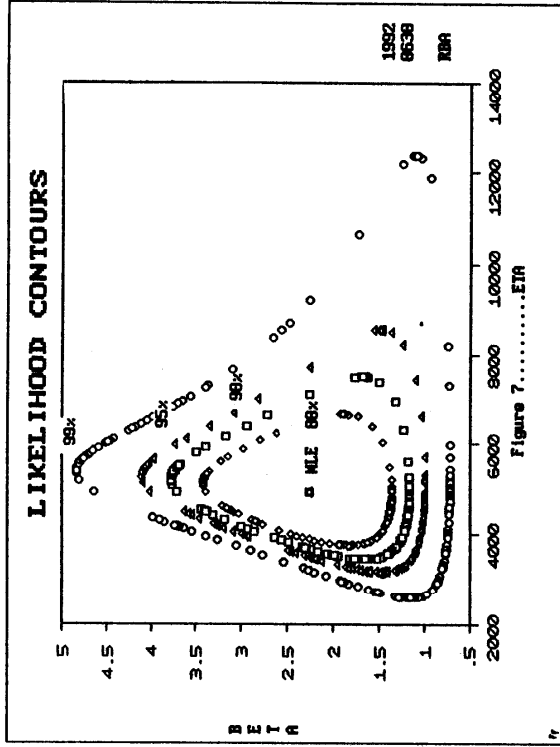
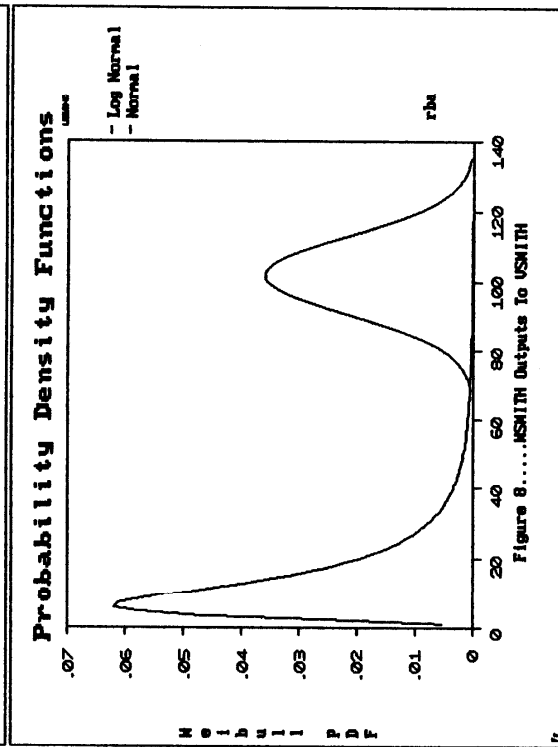

Figure 7 .....ETA
Figure 8 .....ETA Outputs To USMITH
**WeibullSMITH™ a Major Upgrade:** Normal distribution analysis as well as Weibull and Log Normal is now available. The new Fisher Incomplete Matrix bounds are more efficient, and instantaneous and are extrapolated to the margins. For MLE, the new Likelihood Ratio bounds are more precise but calculation intensive. You may plot the Likelihood Function Contours using Visual\*SMITH™. (Figure 7)The likelihood function is reported to be the most important single statistic, in the latest Royal Statistical News and Notes. Visual\*SMITH™ will also plot risk forecasts (Figure 4A), & the Cumulative and Probability Density Functions for all WeibullSMITH™ data sets, (Figure 8), in case you want to know the "shape of things". The MLE routines are reprogrammed for greater accuracy. Instead of Parameters on the plot, B Lives may be selected, or for management presentations, it may be left blank. There is a new Report Option that writes a Summary of your analysis including reading the confidence bounds for B Lives. Output to color plotters is now included. Perhaps the most important new option is Weibull Risk Failure Forecasting. "Reliability Assurance" covered in the last edition, is also included.